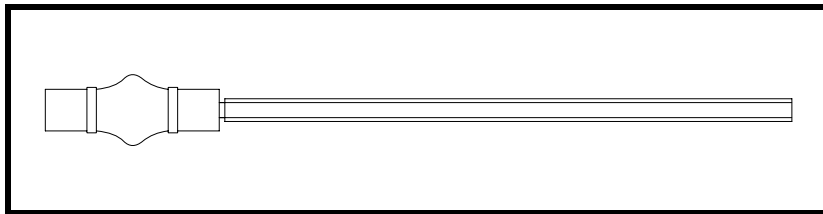

Figure 38
- ❑ Install P/N 513-1 on the universal joint for the right side of the airplane. See Figure 38. This screwjack has left hand threads. The end of the screwjack has a short end to the shaft, shorter than the end of the universal joint. Observe the note and warning above for the installation of taper pins.